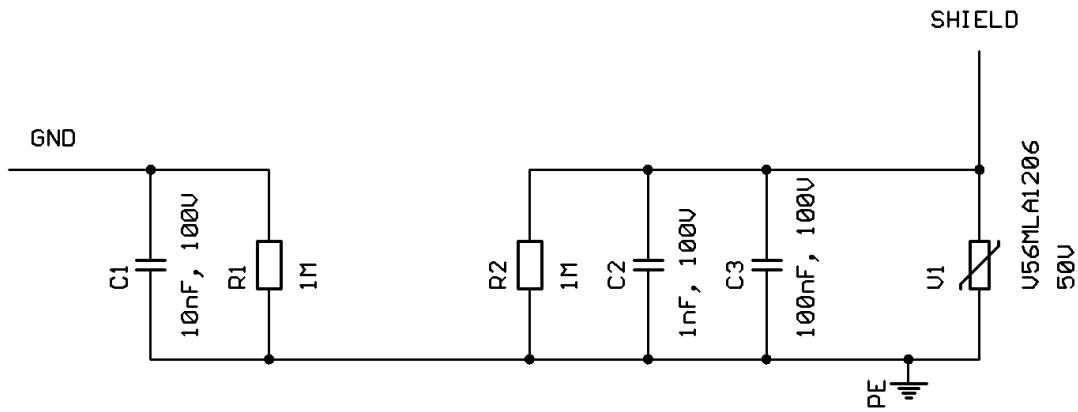

Fig. 3-7: Shielding connected with PE and ground
The shields of CAN1, CAN2, FlexRay, Trigger-input, Trigger-output and Ethernet are connected to the housing ground (PE) via RC-circuits and a varistor (VDR). The shield is connected to the individual grounds via RC-circuits. Fig. 3-7 shows the schematic of these RC-circuits